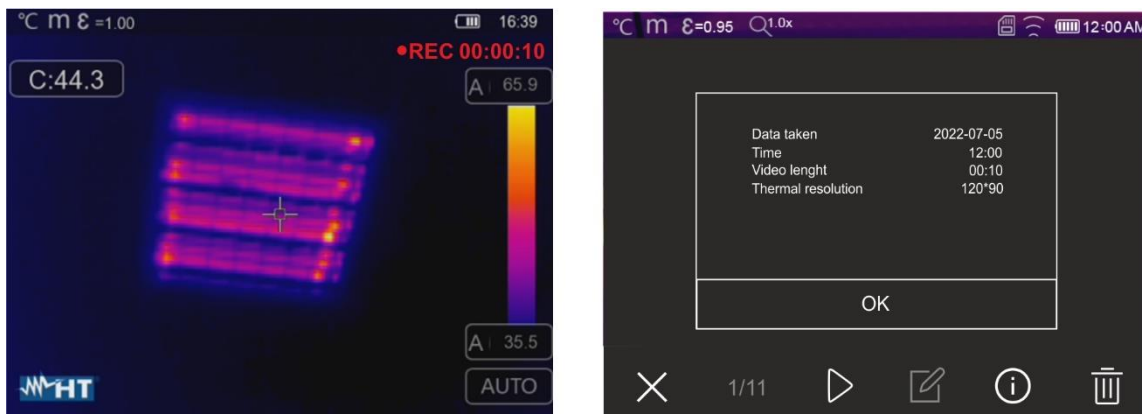

Fig. 48: IR video recording
1. **Press and hold key for at least 2s.** The “REC” indication and the elapsed time are shown at the top of the display to indicate that recording is in progress (see Fig. 48 – left side).